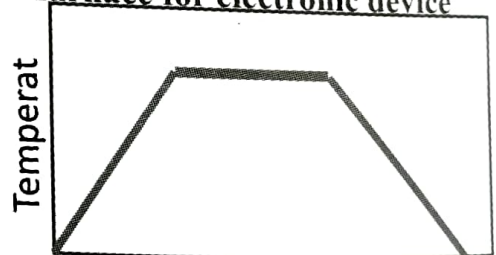

Fig. 4.2 Annealing heat treatment methodology
1. **Annealing:** Annealing is often used to relieve internal stresses in electronic components and restore the material's mechanical and electrical properties. It is a fundamental heat treatment process used in metallurgy to modify the properties of metals and alloys. This technique involves carefully controlled heating to a specific temperature, followed by a controlled cooling process as shown in Fig. 4.2. The annealing temperature is varied with metals and alloys (Table 4.1). Annealing serves a range of purposes, such as reducing Electrical resistance, hardness, enhancing ductility, relieving internal stresses, and refining the microstructure of the material.